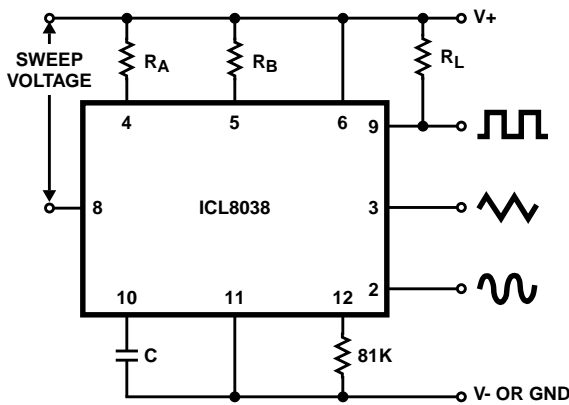

FIGURE 5B. CONNECTIONS FOR FREQUENCY SWEEP
- The hi and lo frequencies can be obtained by connecting pin 8 to pin 7 (f_{HI}) and then connecting pin 8 to pin 6 (f_{LO}). Otherwise apply Sweep Voltage at pin 8 ($^{2/3} V_{SUPPLY} + 2V$) $\leq V_{SWEEP} \leq V_{SUPPLY}$ where V_{SUPPLY} is the total supply voltage. In Figure 5B, pin 8 should vary between 5.3V and 10V with respect to ground.
For larger FM deviations or for frequency sweeping, the modulating signal is applied between the positive supply voltage and pin 8 (Figure 5B). In this way the entire bias for the current sources is created by the modulating signal, and a very large (e.g. 1000:1) sweep range is created (f = 0 at VSWEEP = 0). Care must be taken, however, to regulate the supply voltage; in this configuration the charge current is no longer a function of the supply voltage (yet the trigger thresholds still are) and thus the frequency becomes dependent on the supply voltage. The potential on Pin 8 may be swept down from V+ by (1/3 VSUPPLY - 2V).